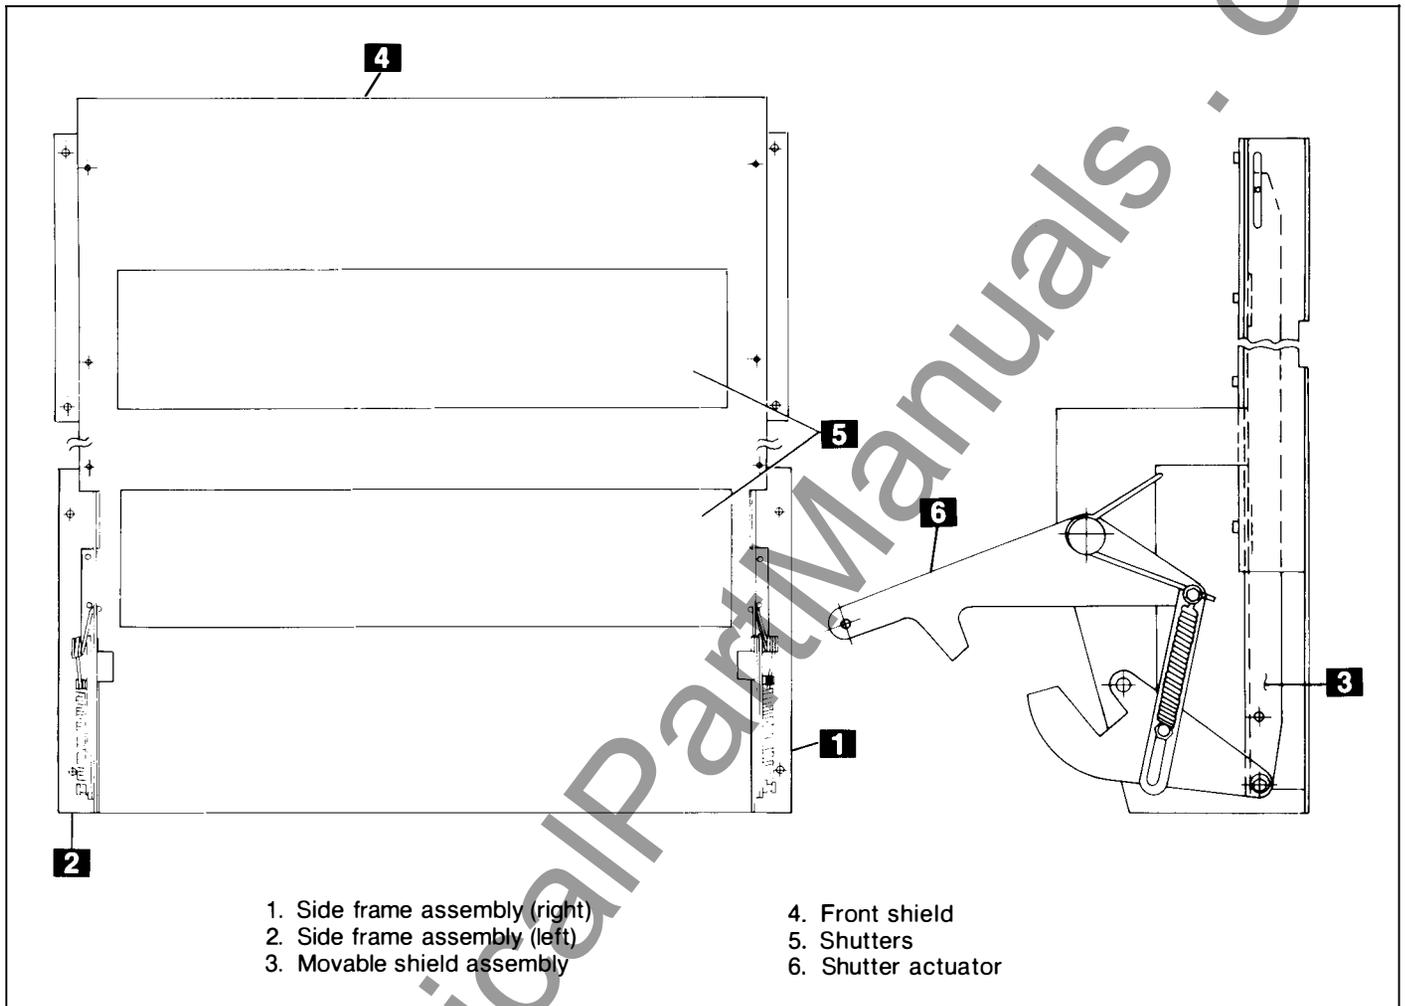

Fig. 7-9. AKD-8 circuit breaker shutter unit (AKR-75/100 breakers)
2. Take out four ¼-inch hex head screws on each side of the frame. A socket wrench with a 7/16-inch driving head with 8-inch extension will be needed. See Fig. 7-9.